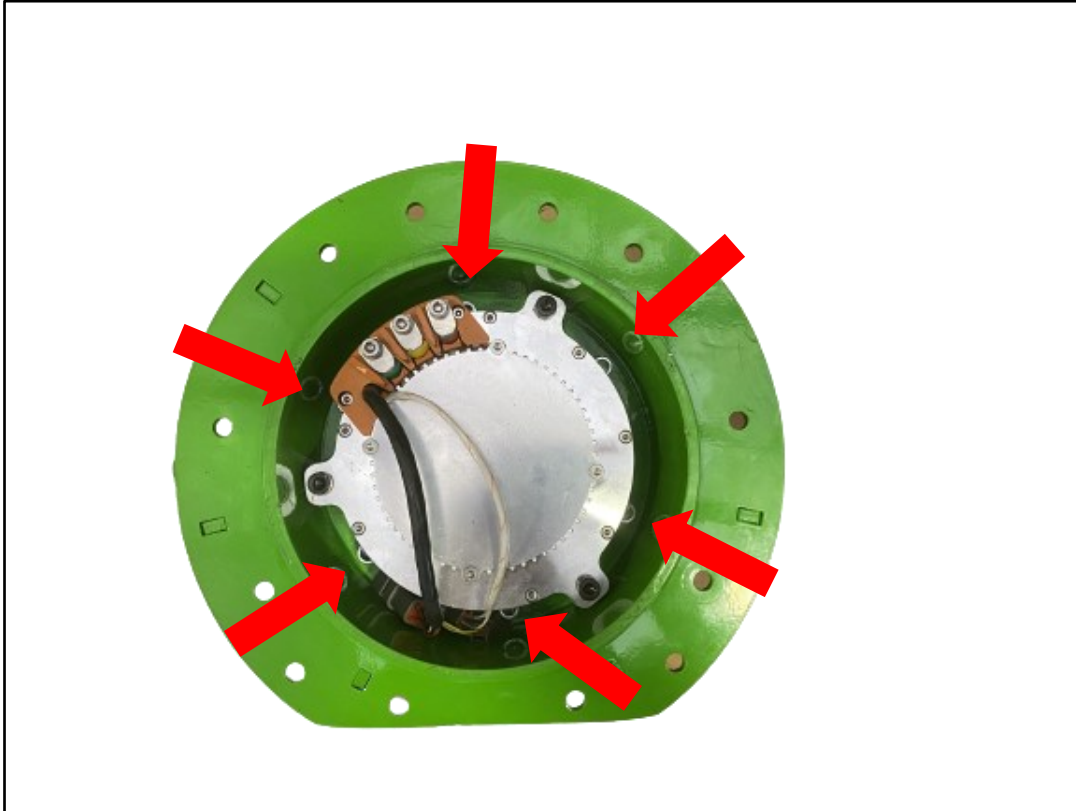

Figure-04: Remove the (6) Allen-Head Bolts holding the gearbox to the green can. This will be easier to access once the motor is removed in previous step.
Step 7: Unbolt the Gearbox from the green drive can (See Figure-04)